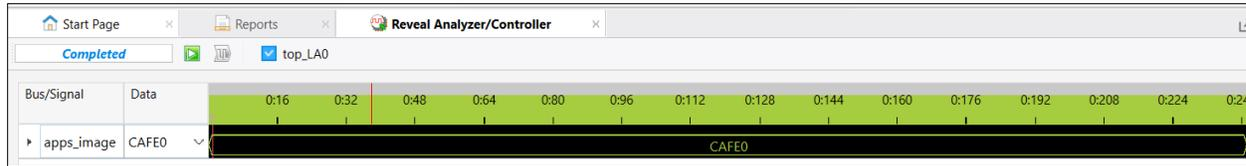

Figure 7.8. apps\_image Showing CAFE0
- d. Open the waveform tab and click the  button. The apps\_image displays CAFE0 indicating that Primary Image is running on the device (Figure 7.8).